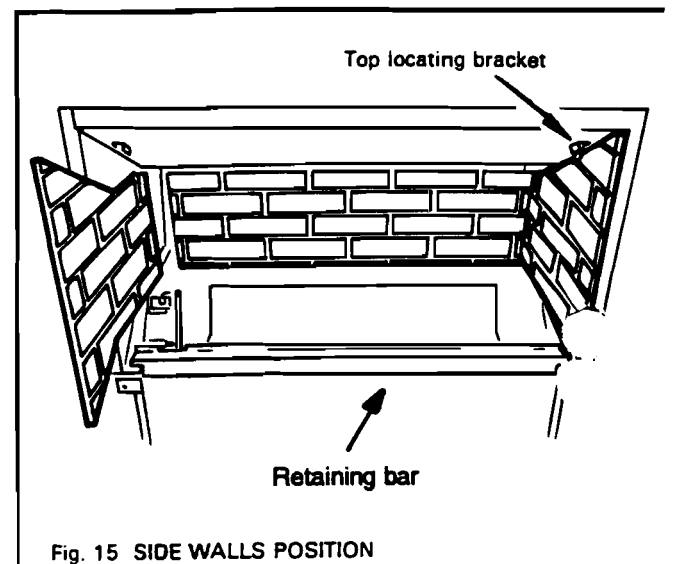

Fig. 15 SIDE WALLS POSITION
- 6.2. Place the ceramic side walls in position at the sides of the firebox. The sides are left and right handed. The sides should be held in position at the top by the angle brackets at the sides of the firebox and at the bottom by the edges of the black bar at front of the firebox (see fig. 15).